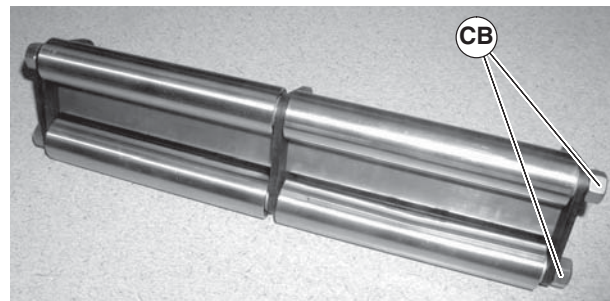

Figure 58
5. Remove hex nuts (Figure 58, item CB).